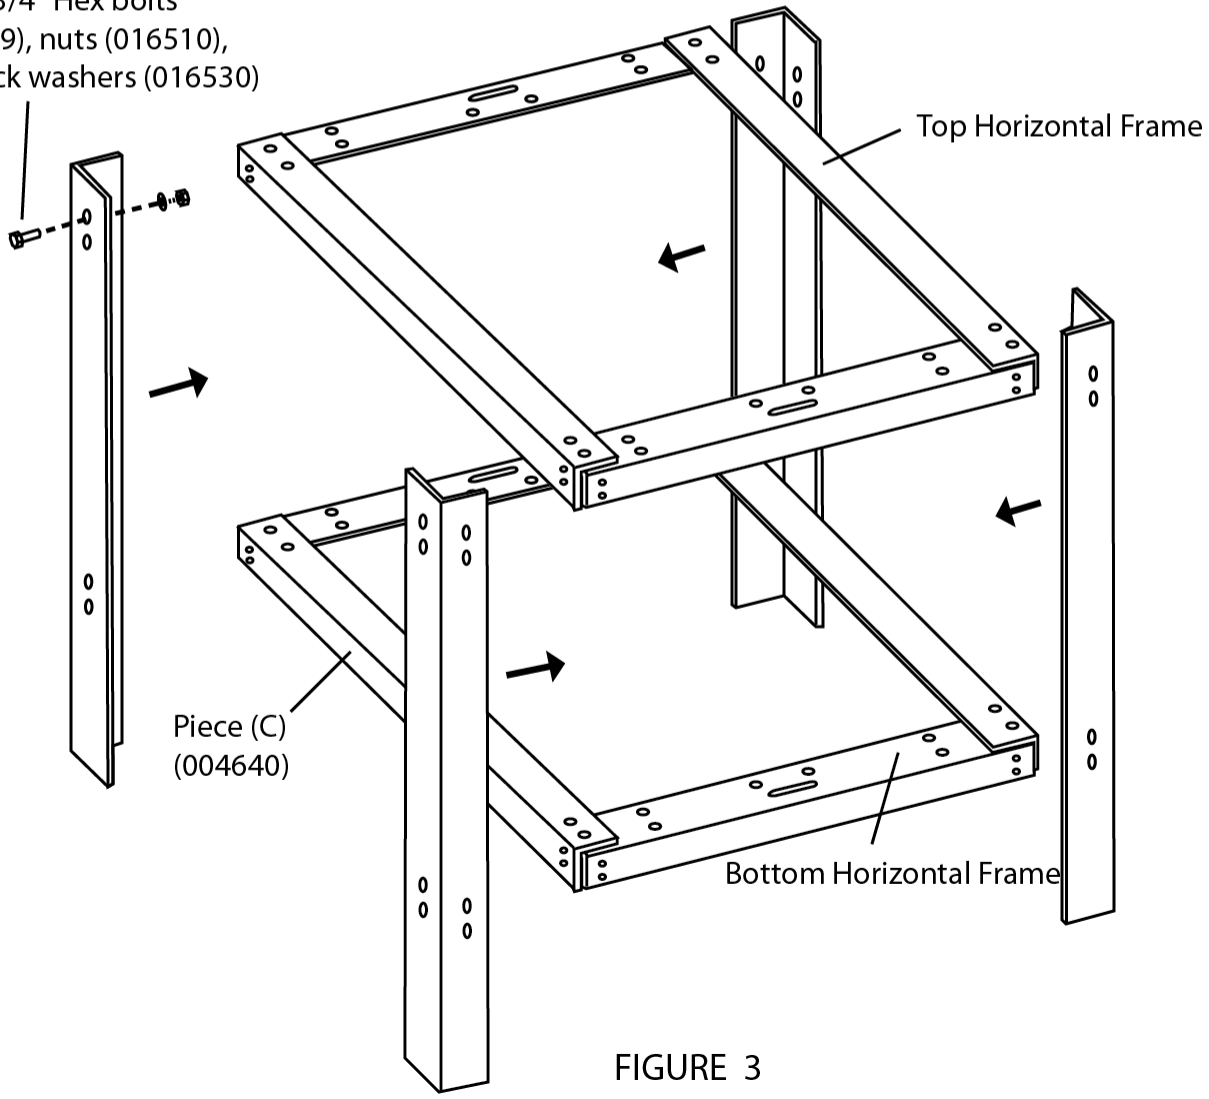

FIGURE 3
- Step 2 Position legs, pieces C (004640) against the outside corners of the top and bottom horizontal frame elements and secure each leg to the frame elements with 8 3/8" dia. x 3/4" hex bolts (016479), lock washers (016530) and nuts (016510). See Figures 3 and 4 for clarification.